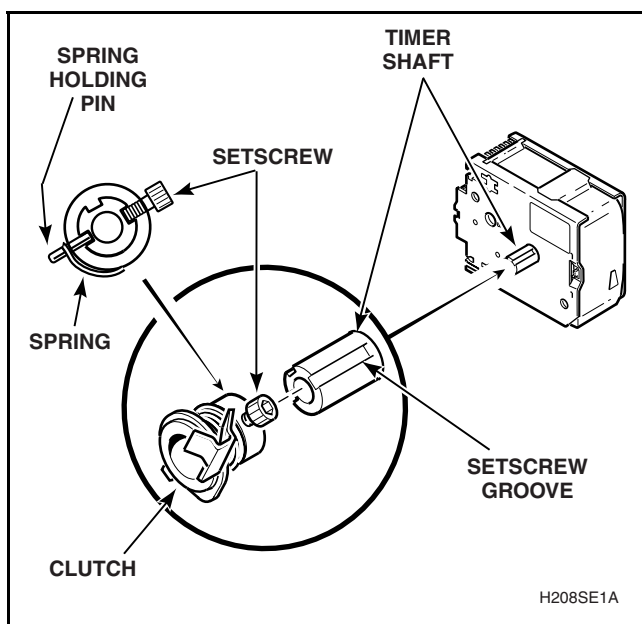

Figure 44
- g. Place clutch on timer shaft and tighten setscrew. Refer to *Figure 44*.
**NOTE:** When installing clutch, alignment of clutch on timer shaft must be installed correctly in order to have proper washer operation. Refer to *Figure 44*. Make sure clutch moves freely after setscrew is tightened.